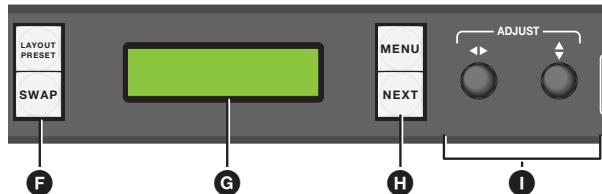

Figure 9. Front Panel Layout Preset and Swap
2. Press **LAYOUT PRESET** (see figure 9, **F**) to open the menu on the front panel display (**G**).
4. Press **NEXT** (see **figure 9**, **H** on page 23) to select the layout.